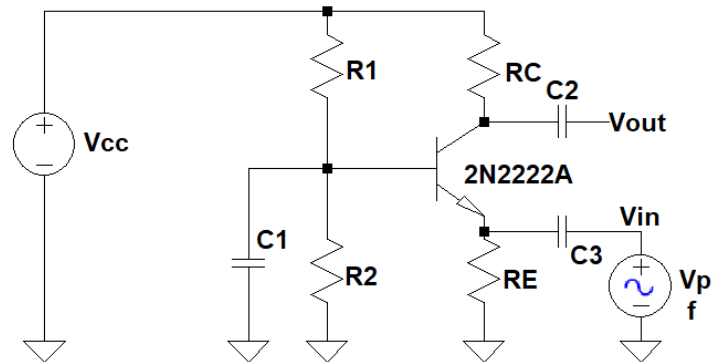

Figure 4 AC circuit for common base amplifier
1. Connect the circuit as shown in Figure4.